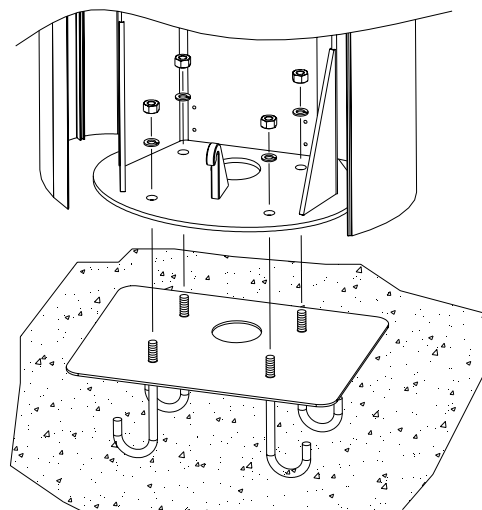

Fig. 4
- Open the barrier wings, position the barrier on the foundation plate making sure that the lower holes correspond to the screwable rods and screw everything in place with the M10 nuts. (Fig.4).